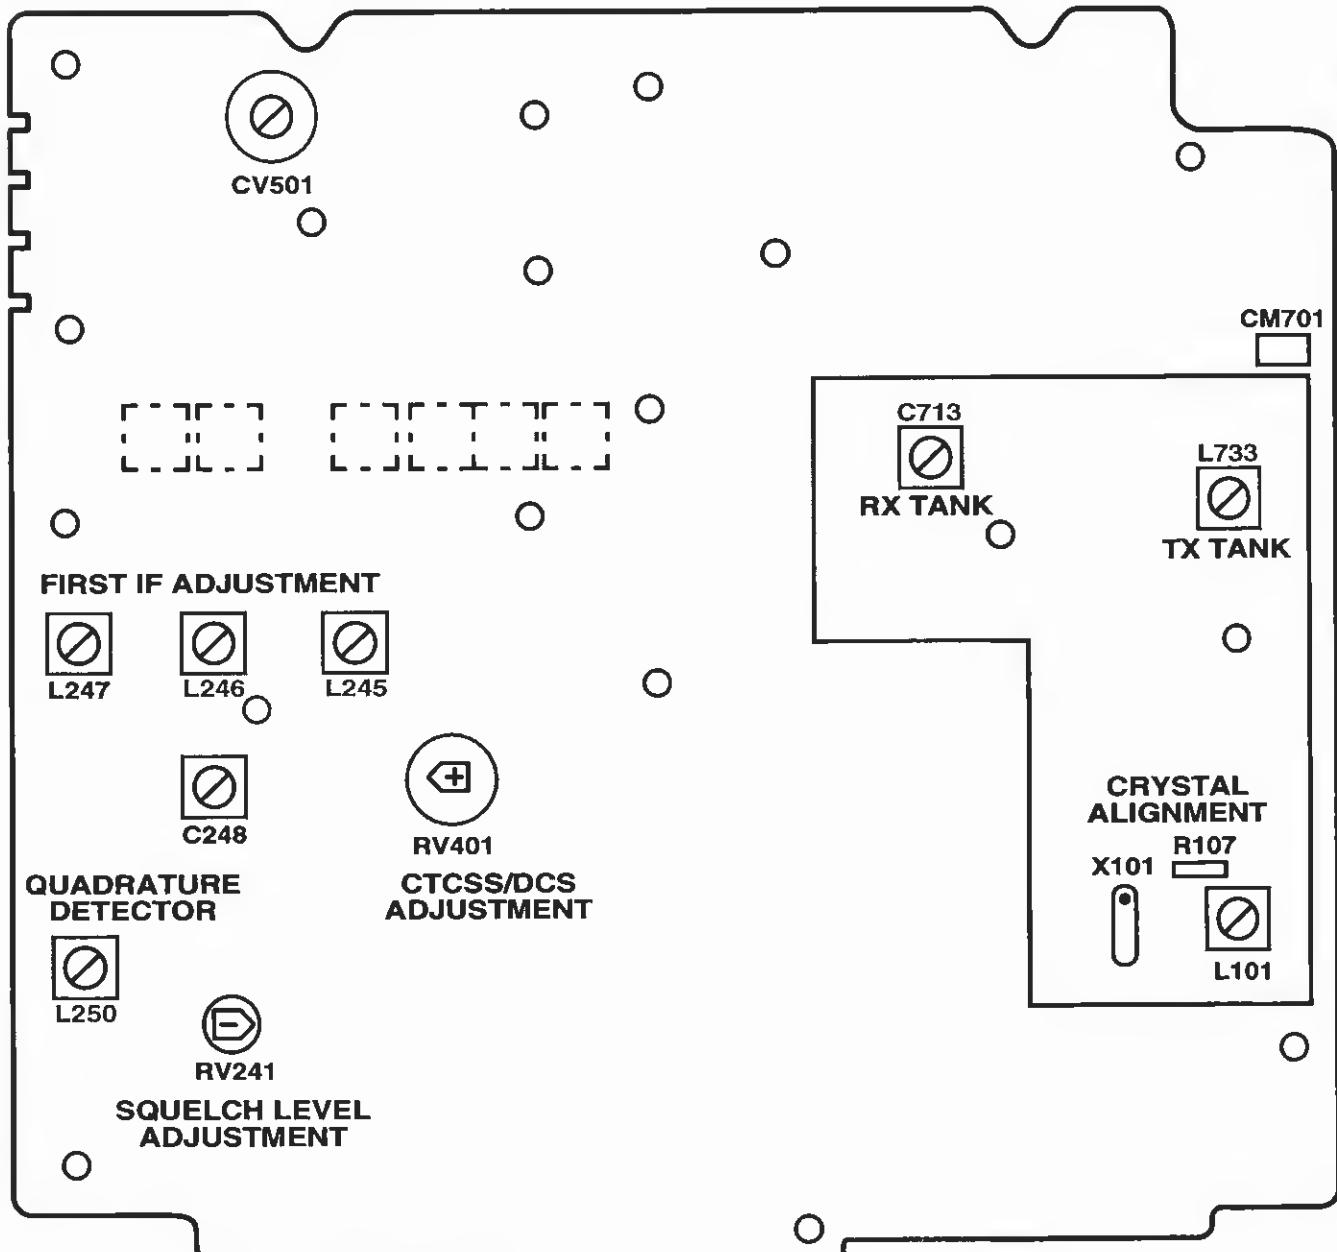

Figure 2 - 1 — Adjustment Map
When parts in the reference oscillator circuit are replaced, including the crystal, it is necessary to select the temperature compensation data of the microcomputer in accordance to the crystal markings. There are three types of crystals as (see Table 2 - 2). There are two ways to determine what type of crystal you have, either by the color of the dot on the top of the crystal or the type number on the side. See the example shown in Figure 2 - 2. See Figure 2 - 1 for crystal location.
7. Press ENT. "XTAL TYPE SELECT" will be displayed. Determine the type of crystal the radio has installed as shown in Figures 2 - 2 and enter the correct type as shown in Table 2 - 2.